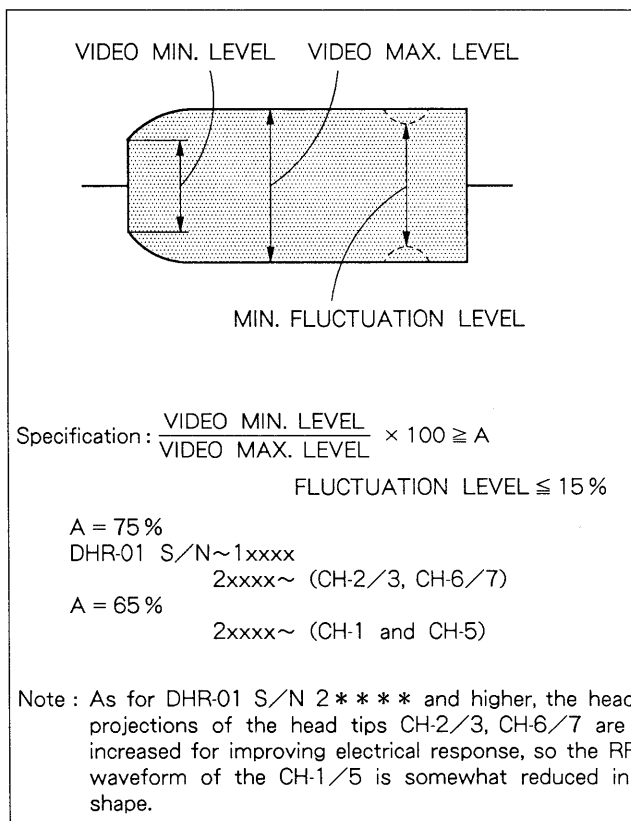

Fig. 9-5-2. PB RF Waveform of an Alignment Tape
5. Check that the RF waveform is within the specifications shown in Fig. 9-5-2.